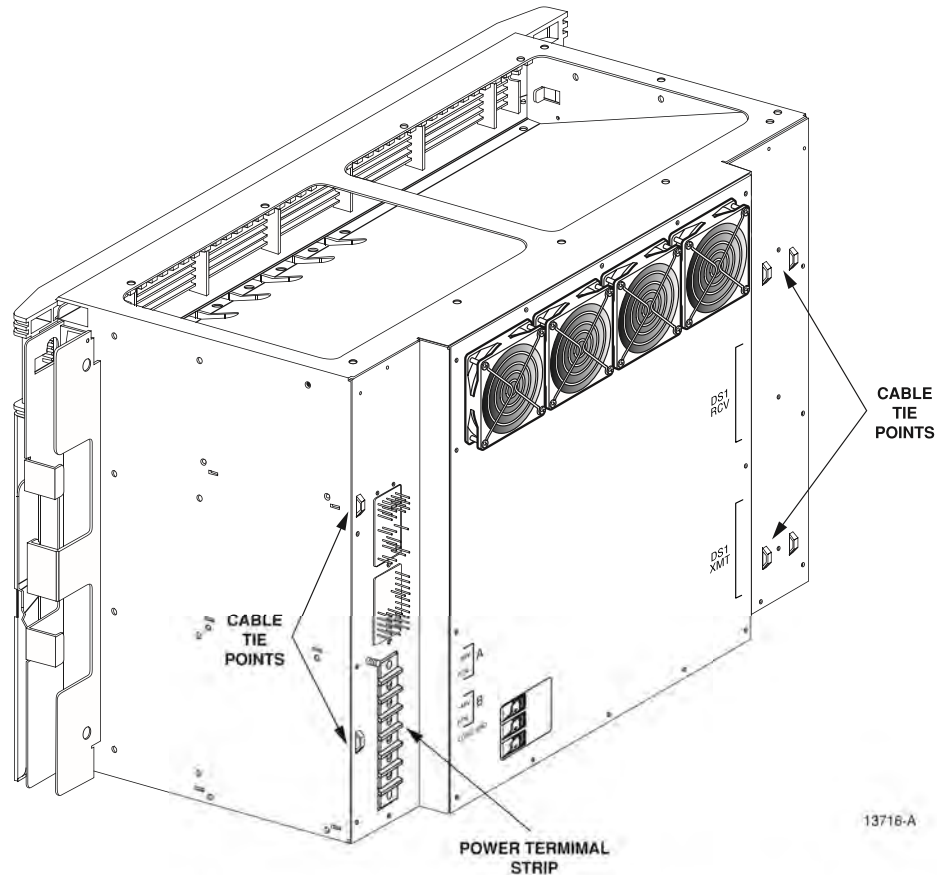

Figure 4-16. Power Terminal Strip and Cable Tie Down Location
3. Locate the power terminal strip at the rear of the HDT chassis as shown in Figure 4-16.
19. Use cable wraps to dress and secure all wiring at the rear side of the HDT. Cable tie downs are provided on both the left and right side of the HDT chassis (see Figure 4-16).